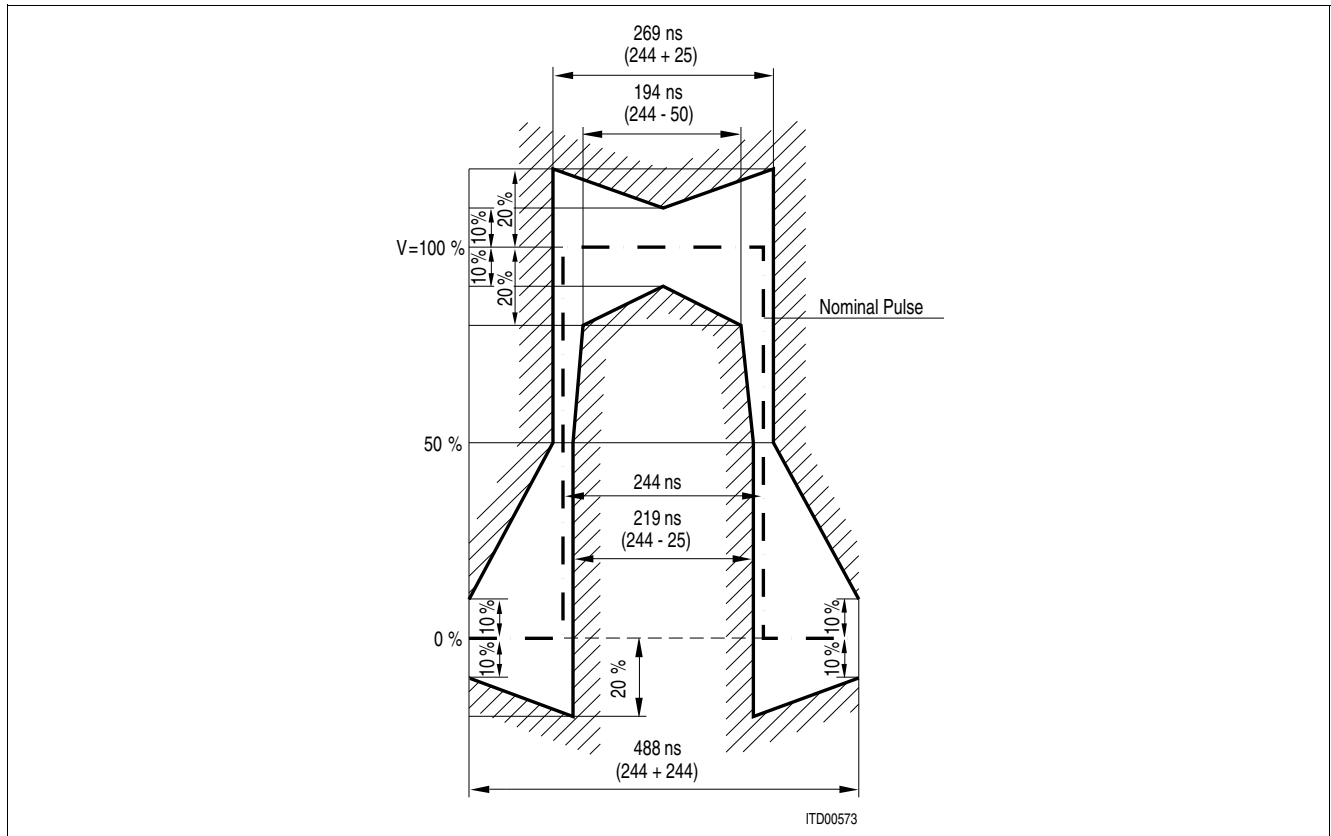

Figure 55 E1 Pulse Shape at Transmitter Output
- For E1: ITU-T G703 11/2001, figure 15 (for 0 m cable length), see Figure 55; ITU-T G703 11/2001, figure 20 (for DCIM mode). For measurement configuration were  $R_{load} = 120 \Omega$  or  $R_{load} = 75 \Omega$  see Figure 32.
With the given values in Table 25 or Table 27, for transformer ratio: 1 : 2.4, cable type AWG24 and with  $R_{load} = 120 \Omega$  the pulse mask according to ITU-T G703 11/2001, see Figure 55, is fulfilled.